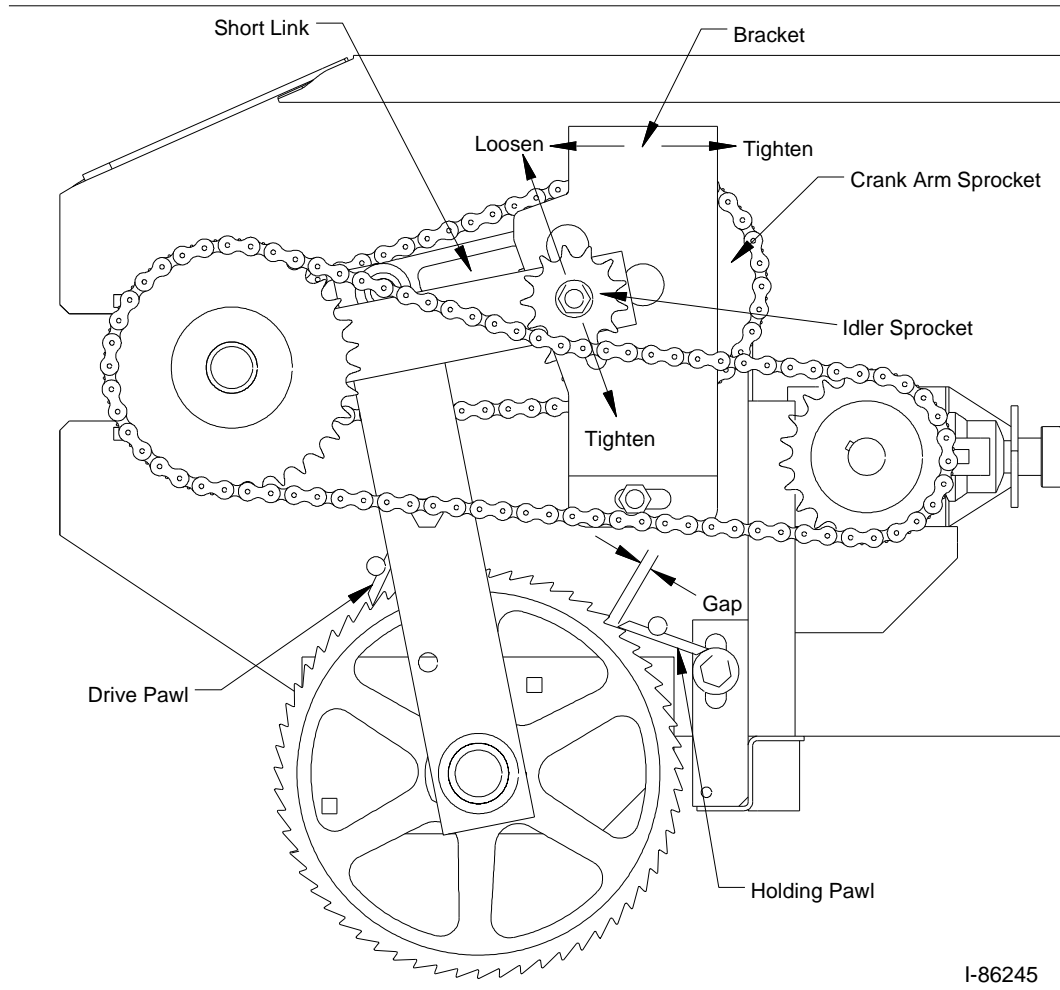

Figure 4B - Adjusting the Holding Pawl and Drive Chains
- Apply chain lube once a month (or as needed) to the drive chains (shown in Figure 4B); use vegetable oil or a common spray lube for chains.
To Reset the Holding Pawl (refer to Figure 4B):
- (c) Adjust the holding pawl to obtain a 1/8" gap between the end of the pawl and bottom of the notch as shown in Figure 4B. Tighten the nut to secure the holding pawl.
Refer to Figure 4B on the previous page for an illustration of the drive chains and related components. The chains should be snug, but not too tight. If the chains are too tight, they may cause excessive wear on the bushings in the crank arm sprocket (resulting in premature failure). If the chains are too loose, they can slip and jump sprocket teeth when the spreader is operating with a full load.
- **Adjust the drive chains** according to Figure 4B and the following guidelines:
- (b) **Ratchet Drive Chain:** adjust the **bracket position** by loosening the two (2) 1/2" bracket bolts and the idler sprocket bolt, then slide the bracket forward or backward as shown.